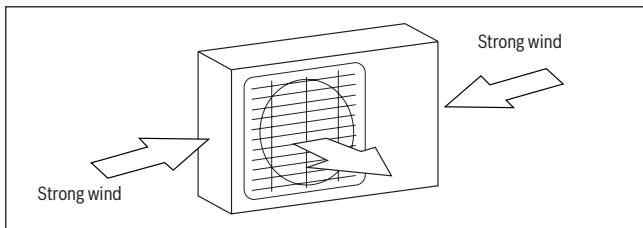

Fig. 17.
- ▶ If the location is exposed to strong winds (for example: near a seaside), the unit must be placed against the wall to shelter it from the wind. If necessary, use an awning. (See Fig. 17 & 18)